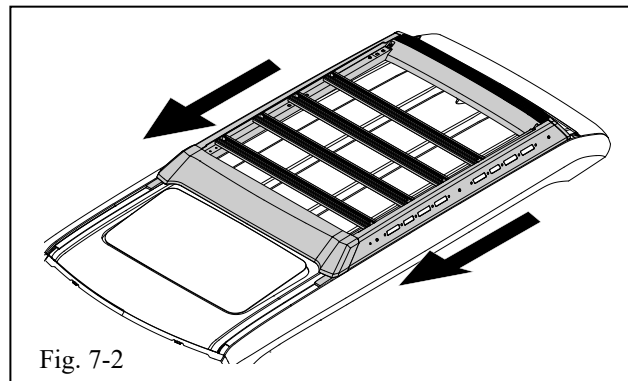

Fig. 7-2
- (b) With the assistance of another person, carefully slide the roof rack forward, making sure that the rails underneath the roof rack on both sides enter the slot. (Fig. 7-2).